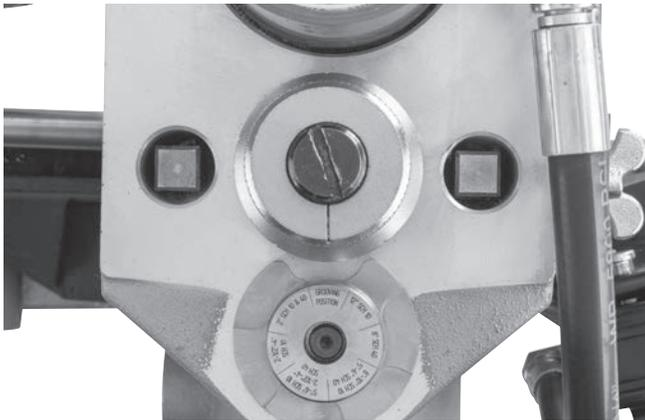

Figure 14B – Gauge in Grooving Position
4. Turn the adjusting nut clockwise until the head touches the step of the depth gauge. Turn the groove depth gauge to the grooving position (Figure 14B). If the gauge is not in the grooving position it will prevent grooving and may be damaged.
2. Make sure the groove depth gauge is in the grooving position. (Figure 14B)